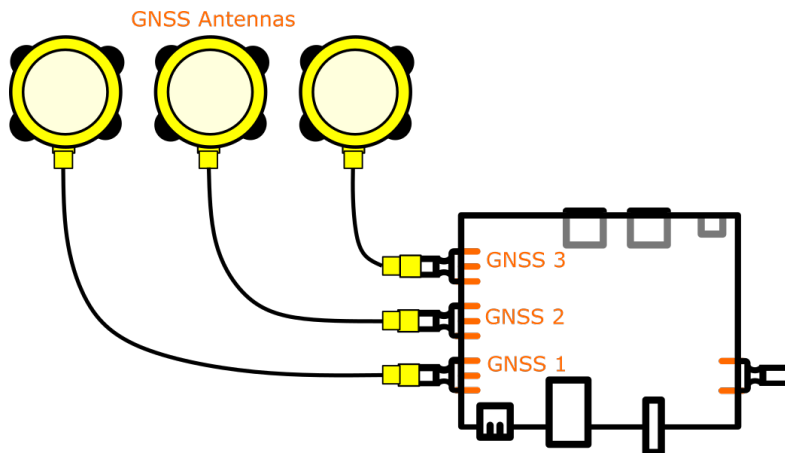

Figure 12: GNSS Antenna connections
The following section describes the different standard connectors and interfaces of the MS-RTK module. Figure 12 shows the antenna-connections with up to 3 GNSS antennas/receivers.
- **SMA Connectors for GNSS:** As already described in Figure 12, on the left side of the casing are the connectors for the GNSS antennas. Please take care to connect in the appropriate order (GNSS 1, GNSS 2, GNSS 3).